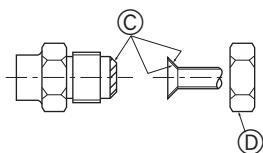

Fig. 5-6
Ⓐ (Fig. 5-6)
Ⓑ (Fig. 5-6)
- ① Connect a gauge manifold valve (pressure gauge included) to the service port near the gas stop valve of the outdoor unit so that the refrigerant pressure can be measured.
- ② Turn on the power supply (circuit breaker).
- ③ Close the liquid stop valve, and then perform the test run for cooling operation (SW4-1: ON and SW4-2: OFF).
- ④ Fully close the gas stop valve when the pressure reading on the gauge drops to 0.05 - 0.00 MPa* (approximately 0.5 - 0.0 kgf/cm²).
- ⑤ If too much refrigerant has been added to the air conditioner system, the pressure may not drop to 0.5 kgf/cm². If this occurs, use a refrigerant collecting device to collect all of the refrigerant in the system, and then recharge the system with the correct amount of refrigerant after the indoor and outdoor units have been relocated.
- ⑥ Stop the air conditioner operation (SW4-1: OFF and SW4-2: OFF).
- ⑦ Turn off the power supply (circuit breaker).
5.5. Connecting pipes (Fig. 5-6)